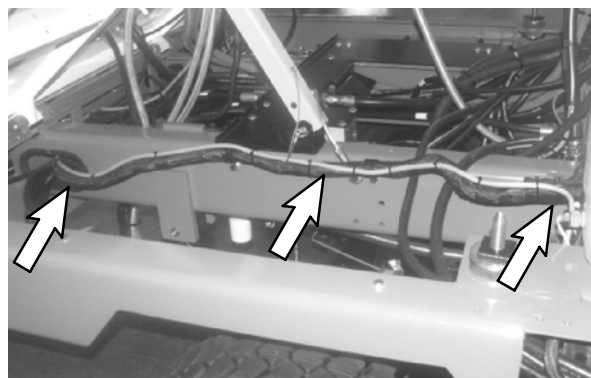

FIG. 27
44. Route the arrow stick cable assembly (2) along the main wire harness and to the hopper. Use cable ties (13) to secure the arrow stick cable assembly to the wire harness. Refer to Fig. 27.